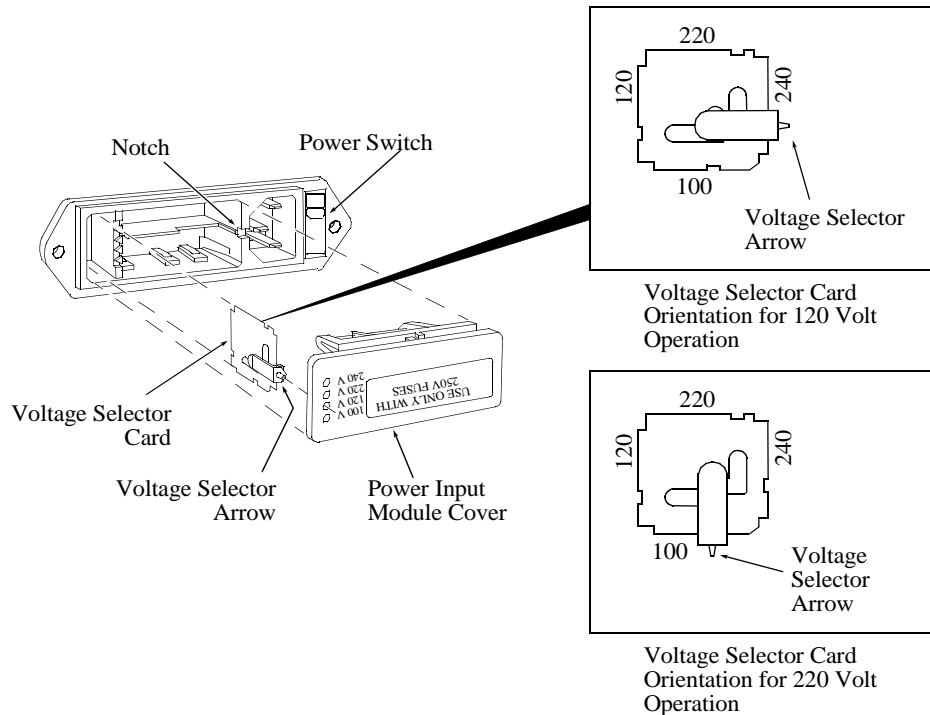

Figure 2-1. Power Input Module (exploded view).
2. Refer to Figure 2-1. Remove the power input module cover by inserting a small flat blade screwdriver into the notch and carefully pry off the cover.
4. Position the number (100, 120, 220, 240) on the side of the voltage selector card so that it is **opposite** the voltage selector arrow. **THIS NUMBER MUST CORRESPOND TO THE VOLTAGE FOR YOUR LOCATION.** Figure 2-1 shows the voltage selector card settings for both the 120 V and the 220 V position.